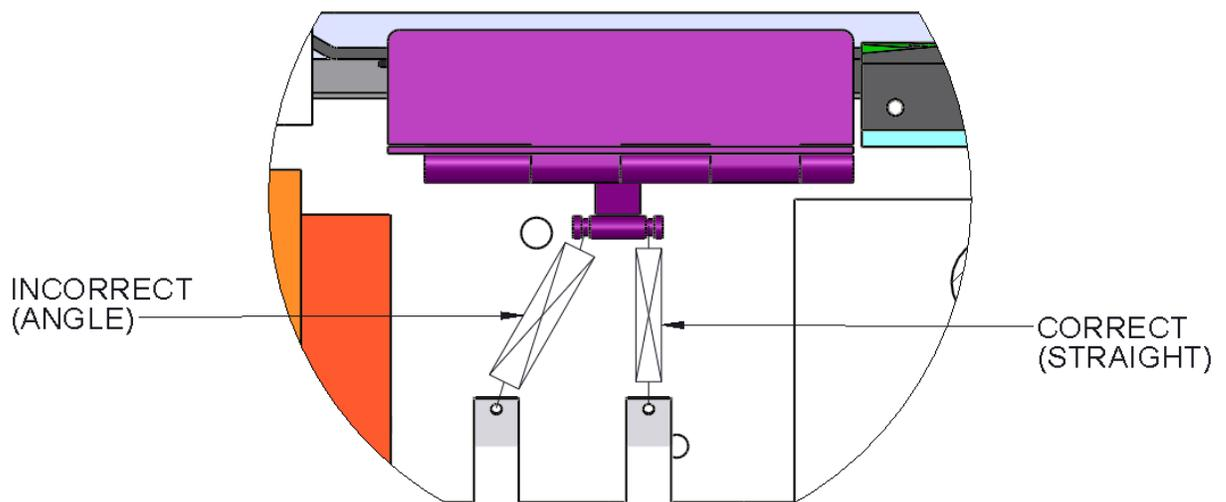

FIGURE 5
4. The spring clips must be mounted in a position so the springs are in a straight line vertically from the clips. They should not cause the spring to be angled sideways (See Figure 5).